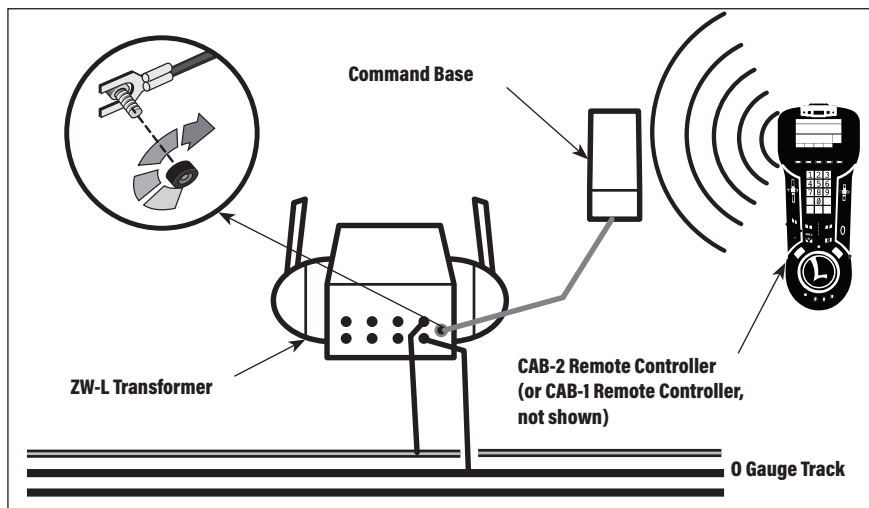

Figure 6. Command Base connection
**Y**ou may choose to connect the Command Base (available separately) communication wire to the Command Base binding post on the back of the ZW-L Transformer. See Figure 6. Alternately, you may connect the Command Base communication wire directly to the outside rail.